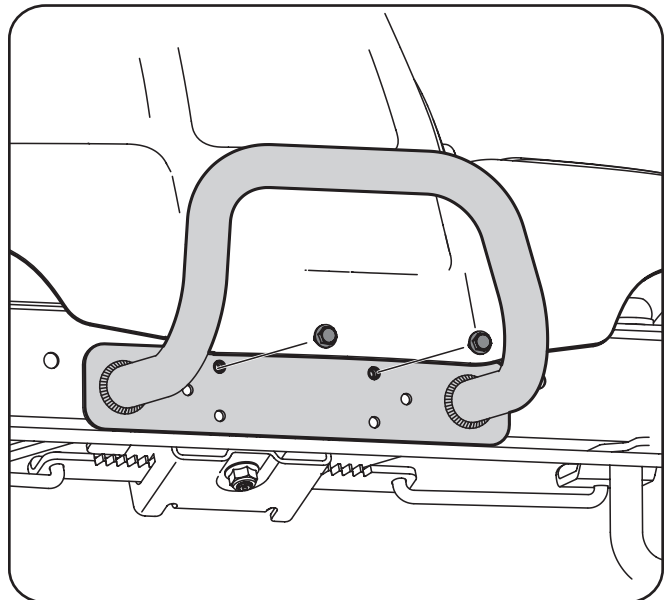

**Figure 3-12**
1. Remove the factory installed hitch plate mounting hardware located on the rear of the tractor. See Figure 3-12.
2. Position the hitch plate, packed with the loose parts, with the flat side up as shown in Figure 3-12. Secure using the two bolts and hex nuts previously removed.